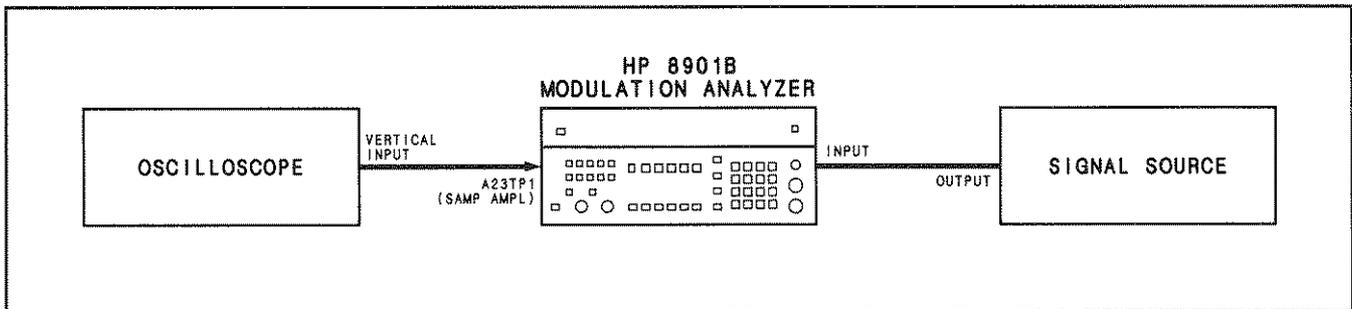

Figure 5-2. Sampler Efficiency and Offset Adjustment Test Setup
2. Connect the equipment as shown in Figure 5-2. (The oscilloscope input should be ac coupled. The signal source can be connected either to a sensor module or directly the the Modulation Analyzer's INPUT.)